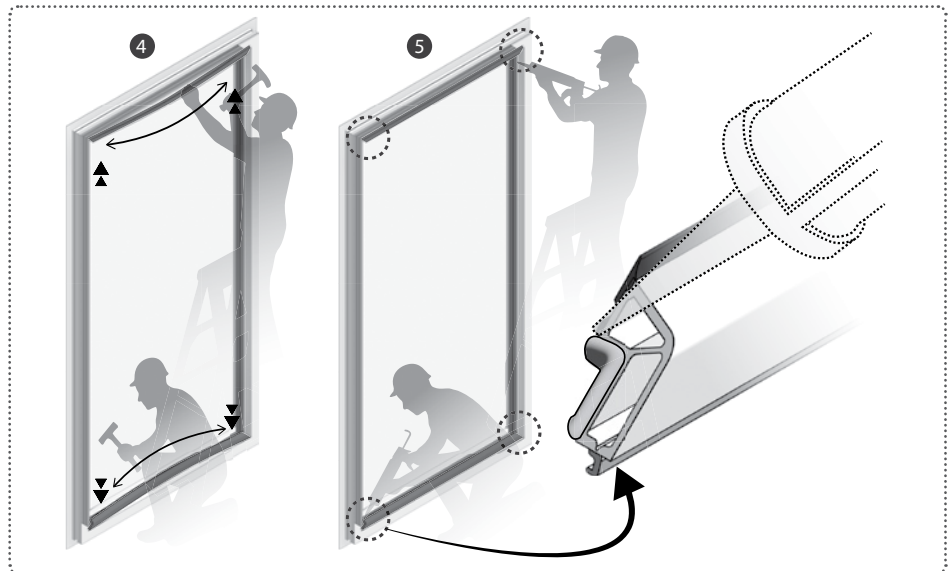

Figure 42. Installing and securing final glazing beads (steps 4-5)
4. Insert the two shortest beads into their designated position and tap the corners into the place to ensure a proper fit. [Figure 42 on page 40]
5. Apply an adequate amount of sealant to all four corners of the two glazing beads (2 corners per bead), as shown in [Figure 42 on page 40].